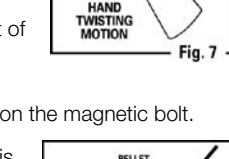

Fig. 7
- Pull the BB retainer button back (Fig 7).